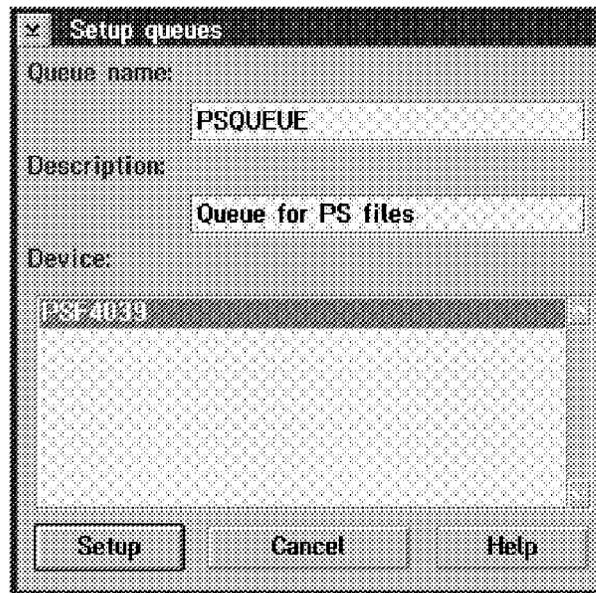

Figure 182. Setup Queues Window
2. Select **Setup queues**. The Setup queues window shown in Figure 182 will open.